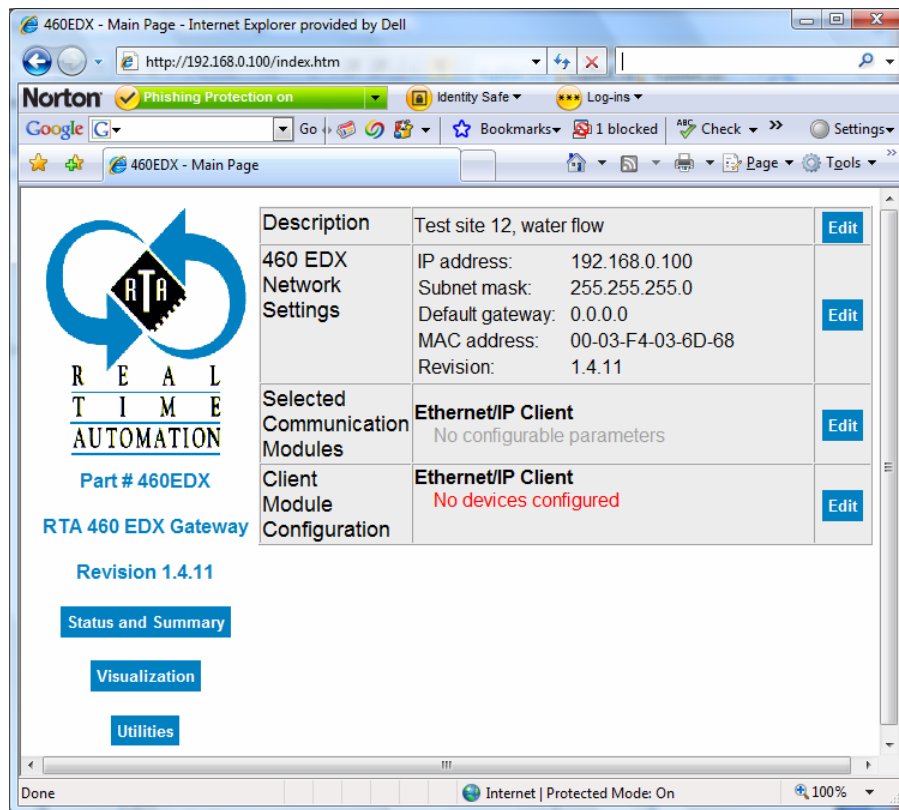

Figure 2-31 EtherNet/IP Client Module Configuration
- Click on the Return to Main button. The RTA 460 Gateway Main Page displays with a Client Module Configuration option. See Figure 2-31.